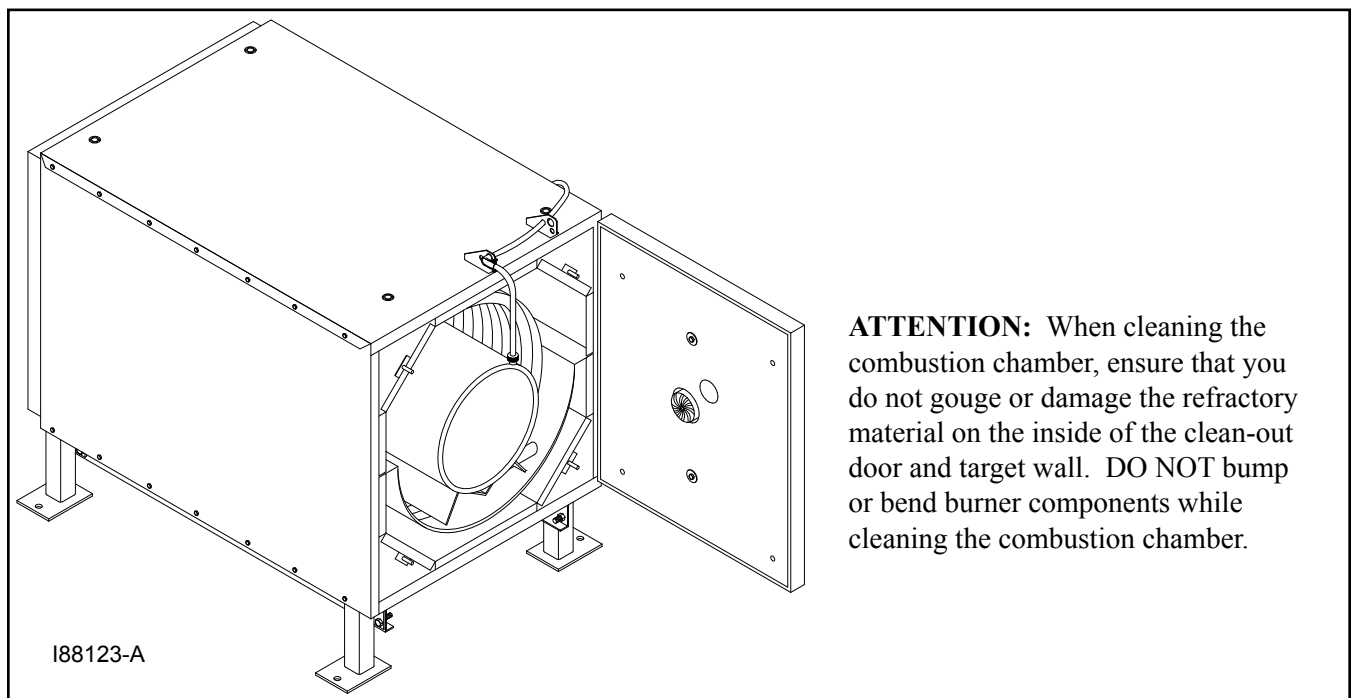

Figure 9D - Accessing the Combustion Chamber for Cleaning
2. Clean the ash from the combustion chamber (see Figure 9D):